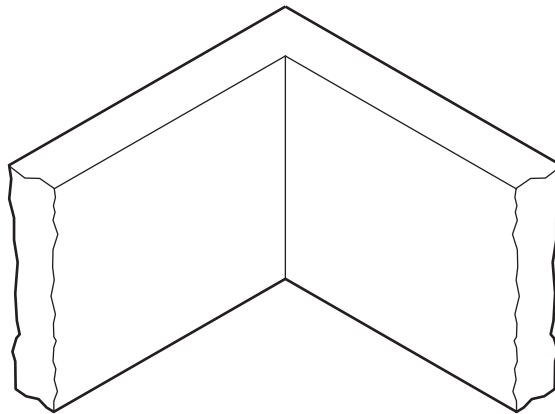

Fig. 12.2
- (c) A 5 mm thick MDF base will be fitted inside the box. Fig. 12.2 shows one inside corner of the box.
Add sketches and notes to Fig. 12.2 to show how the base could be fitted inside the box. The edges of the base must not be seen.